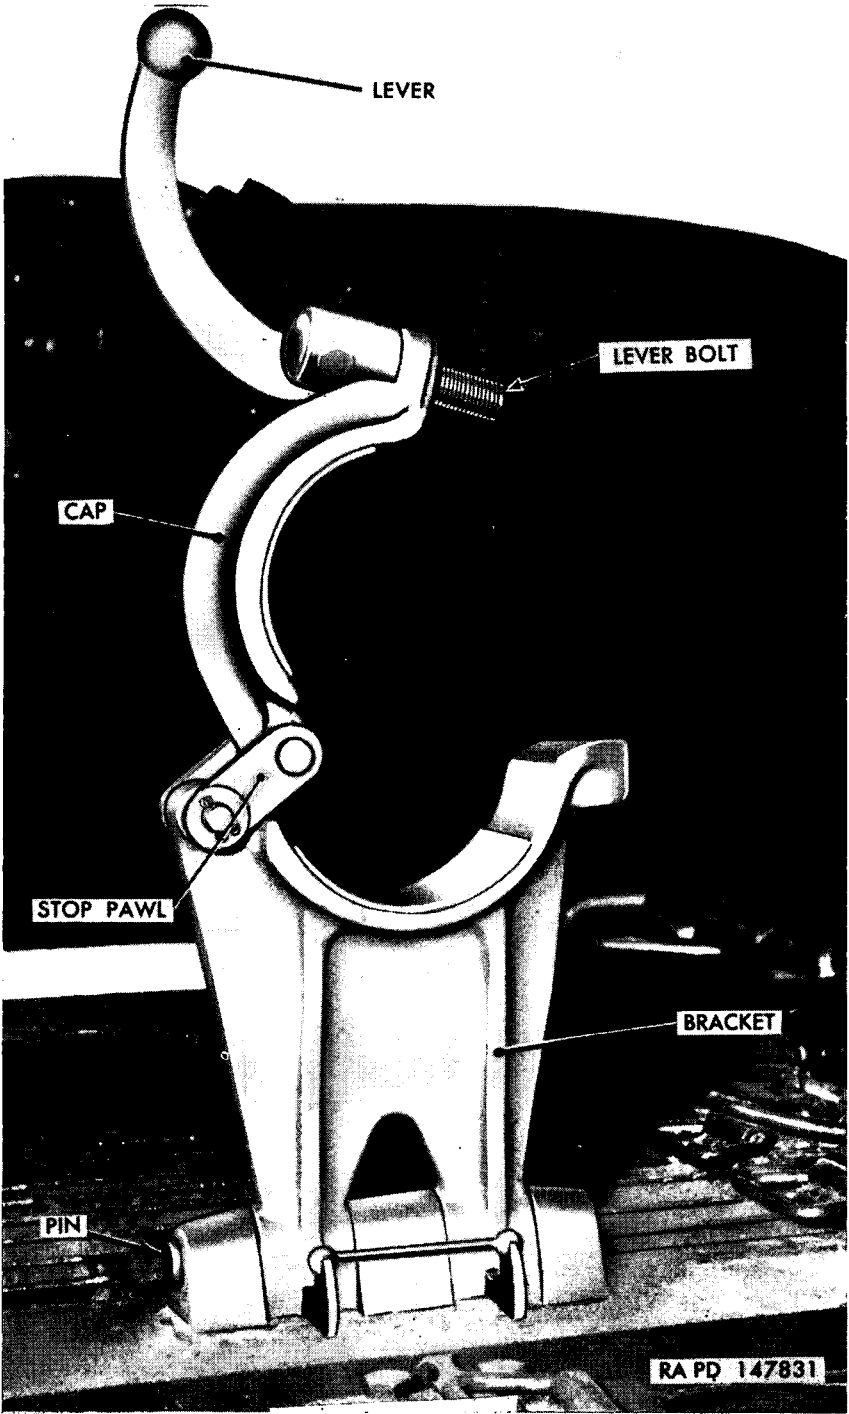

Figure 289. Gun traveling lock—installed view.
(fig. 7) provide means of attaching a tow bar or cable. The hull is equipped with two lifting eyes (figs. 4 and 5) at each end for use when hoisting the vehicle. A demountable towing pintle at the rear is used for towing light vehicles (fig. 290). The gun traveling lock (fig. 289) supports the gun while in traveling position thereby relieving the gun mechanism of shock-load arising with vehicle motion.
a. REMOVAL. Remove 90-mm gun from lock. Remove retainer ring with snap ring pliers 41-P-1992-36 and knock out pin that secures bracket to engine compartment rear crossbeam bracket (fig. 289). Remove lock.